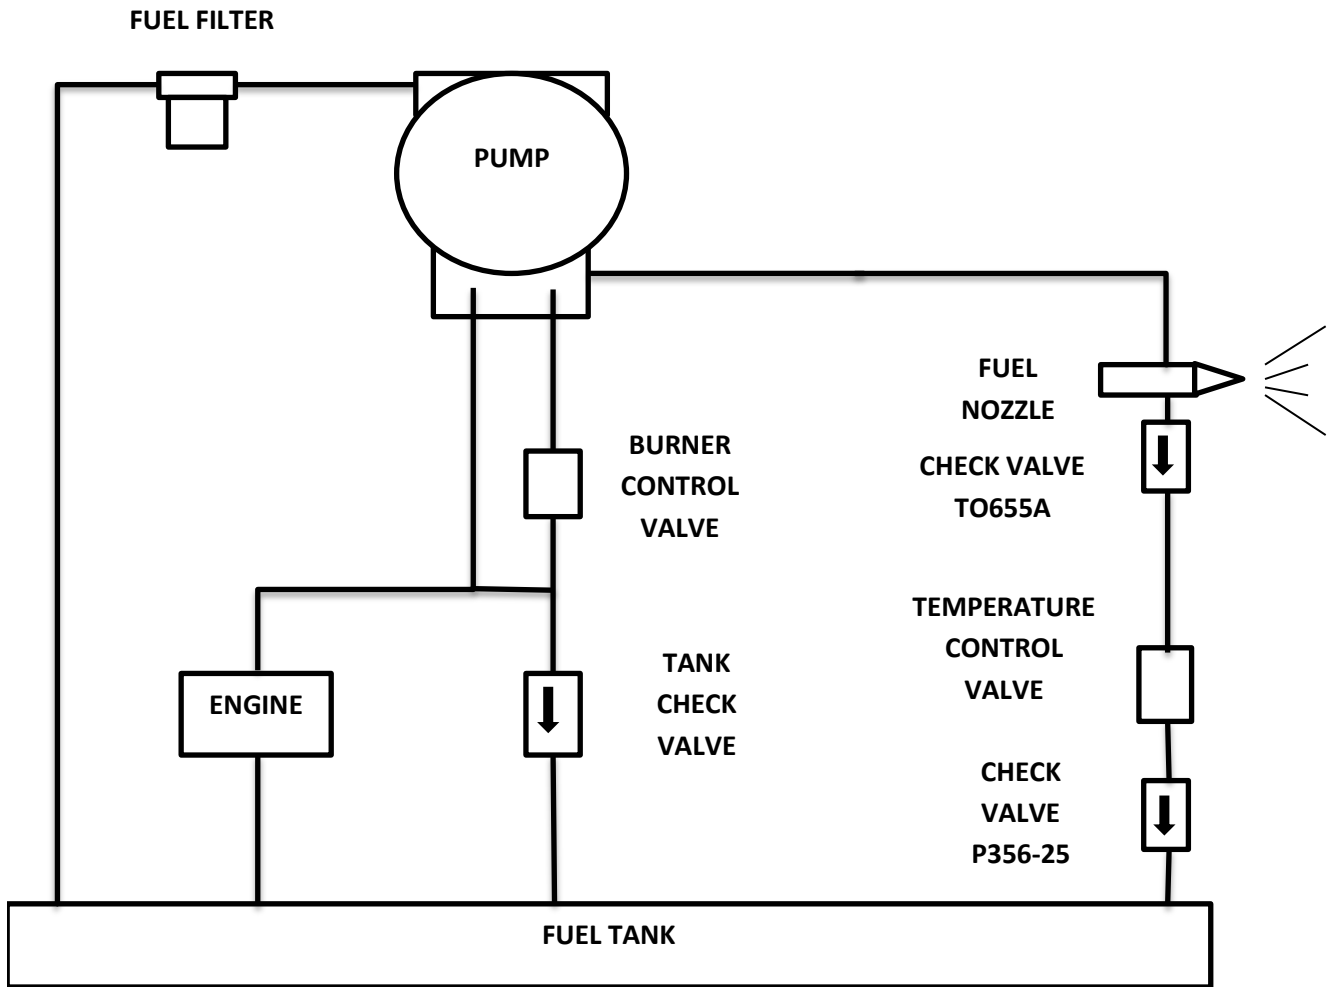

Figure 2-1 Heater Fuel System
4.7 Fuel is drawn from the fuel tank through the fuel filter and delivered under constant pressure to the variable discharge combustion nozzle (**see figure 2-1**). The temperature control valve opens and bypasses a metered amount of fuel back to the fuel tank. The ignition system produces a high voltage spark at the igniter plug to ignite the fuel and air mixture. The resultant flame heats the heat exchanger. Ambient air is forced through the heat exchanger by the fan assembly. As the ambient air passes through the heat exchanger it is directed through the heat deflector to the heat exchanger outlet.